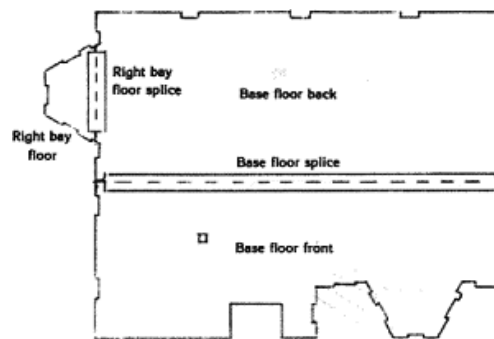

FIGURE 2
1. Locate base floor back, base floor front, right bay floor, and base floor splices (Sheets HR-3,4, and 9). With the good sides of the floor parts facing down splice base floor together by gluing the splices in place as in Figure 2. Tape splices in place.